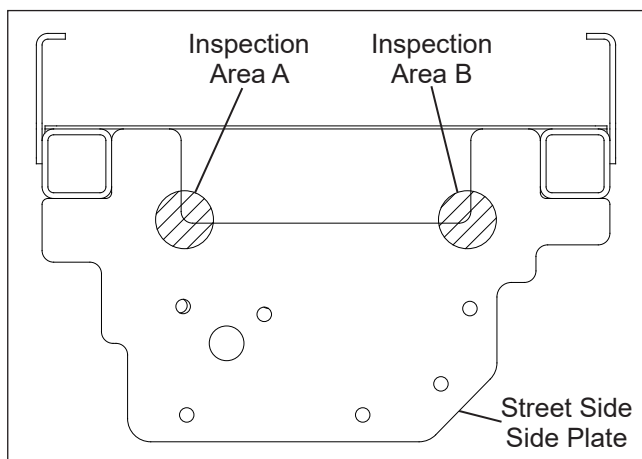
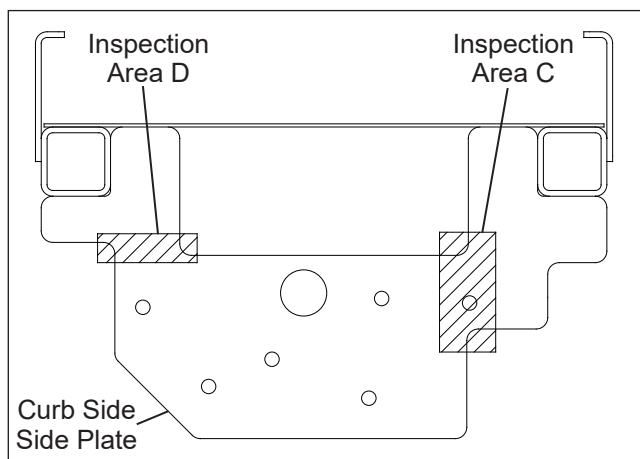

**Figure 4 — Inspection Areas A and B Locations**
**Figure 5 — Inspection Areas C and D Locations**
3. Using a wire brush, remove any paint and rust from the side plates in inspection areas A and B on the street side (refer to Figure 4) and inspection areas C and D on the curb side (refer to Figure 5).